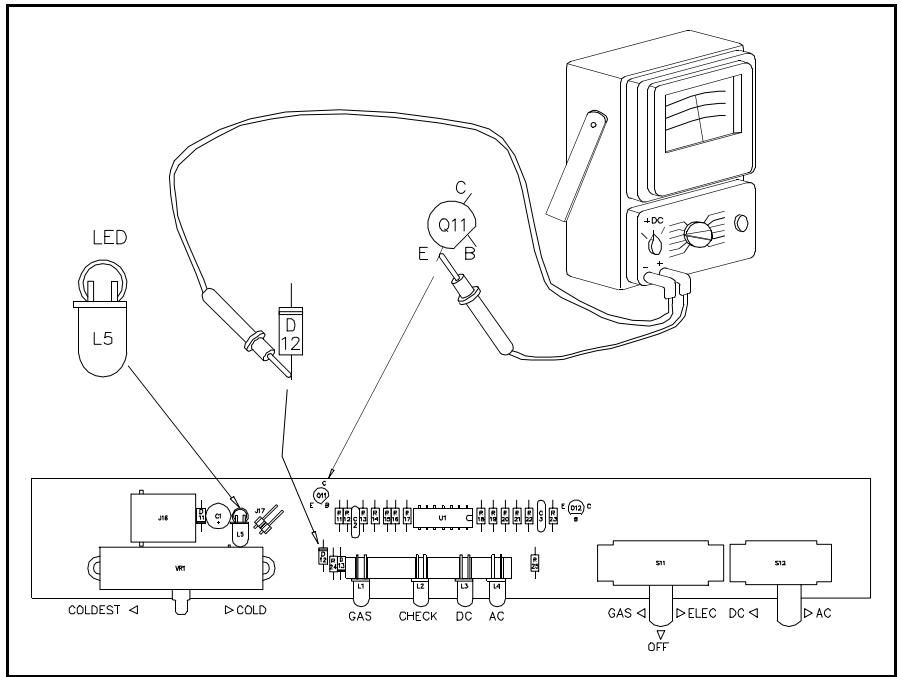
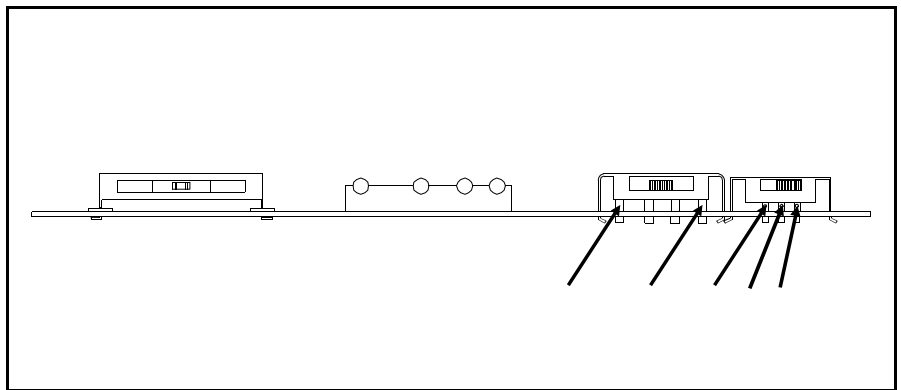

Figure 5.58 12 Volt DC Check
Figure 5.59 Control Voltage Check
- Set the Mode Selector switch to the OFF position as shown by Figure 5.58.
- Connect a volt meter as shown in Figure 5.58.
- With the voltmeter's negative lead connected as shown in Figure 5.58, check the switch terminals shown in Figure 5.59.
- Set the Mode Selector switch(es) to DC ELECTRIC Mode. Use the volt meter (with negative lead still connected per Figure 5.58) to check Points B, C and D as shown in Figure 5.59. You should measure approximately 2 volts DC. If not, replace the Eyebrow Board.